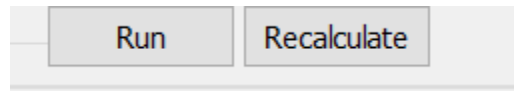

Figure 2.19. Processing buttons
This section describes operation of the model after the input information is complete and before the outputs are generated. Output can be (1) only a calibration file to be saved for further processing, (2) a calibration file plus map predictions for requested scenarios based on the last, or (3) recalculations based on previous predictions and a saved or recently created calibration file. Figure 2.19 shows the processing buttons of the GUI.
The following descriptions and conditions apply to the buttons in Figure 2.19: